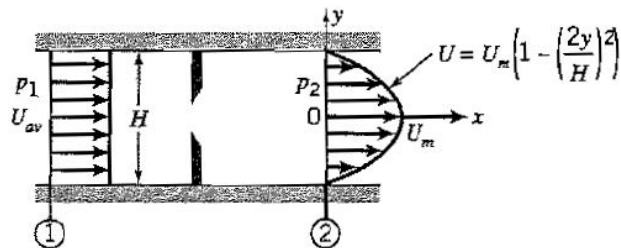

Figure P3.39
3.39 Two fences are placed inside a horizontal duct of height H and width W , as shown in Figure P3.39. Air of constant density ρ flows steadily from left to right, and the velocity upstream of the fences (station 1) is constant across the area and equal to U_{av} . The velocity downstream of the fences (station 2) has a parabolic distribution across the duct with a maximum value U_m . The pressures at stations 1 and 2 are p_1 and p_2 , respectively, and they are constant across the duct area.